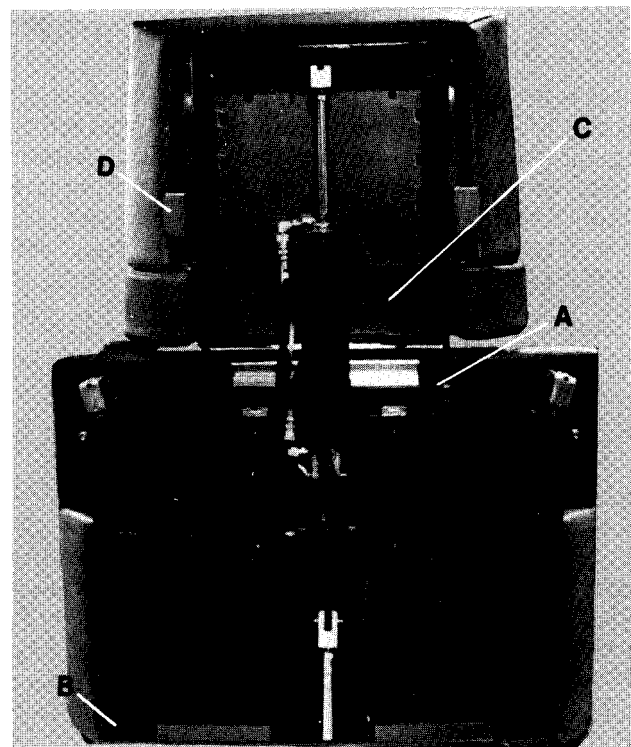

Fig. 6
- 3) Remove the (2) screws located at the front edge of the seat section. (Item A, Fig. 6). It is easiest to do this with the leg extension raised up.
- 4) Remove the (2) screws located under the seat section, near the hinge, by inserting a screwdriver through access hole, Item B, Fig. 6.
- 2) Align front holes under seat section, Item A, Fig. 6 and install (2) # 10-24 x 5/8" screws. It is easiest to do this with leg extension raised up.
- 3) With a magnetic screwdriver, install (2) # 10-24 x 5/8" screws through the access holes. Item B, Fig. 6.
- 1) Raise foot extension up, remove (2) # 10-24 x 7/8" screws under the legrest frame, Item C, Fig. 6.
- 2) Align holes and install (2) # 10-24 x 7/8" screws under the legrest frame, Item C, Fig. 6.
- 1) Remove footrest from table by lifting lever, Item D., Fig. 6 and pulling footrest toward you.
- 1) When placing the footrest section in the position shown in Fig. 6, the metal guides should be inserted into the slots until you hear the mechanical locking device engage.